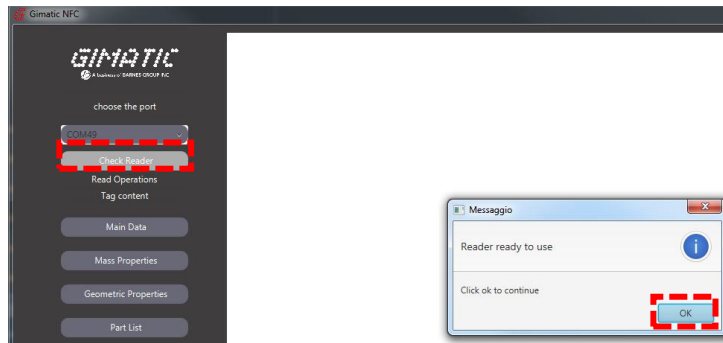

Figure 23
- Check the connection of the reader (Figure 23).